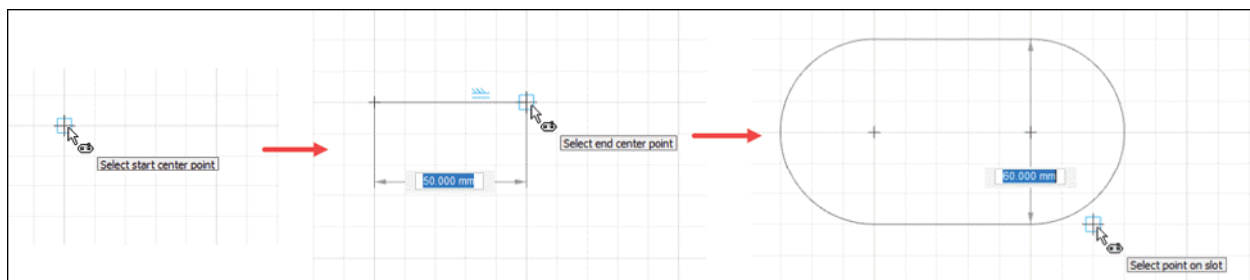

Figure-32. Creation of center to center slot
- Enter the value in dynamic input box or click on the screen; refer to Figure-32. The slot will be created.